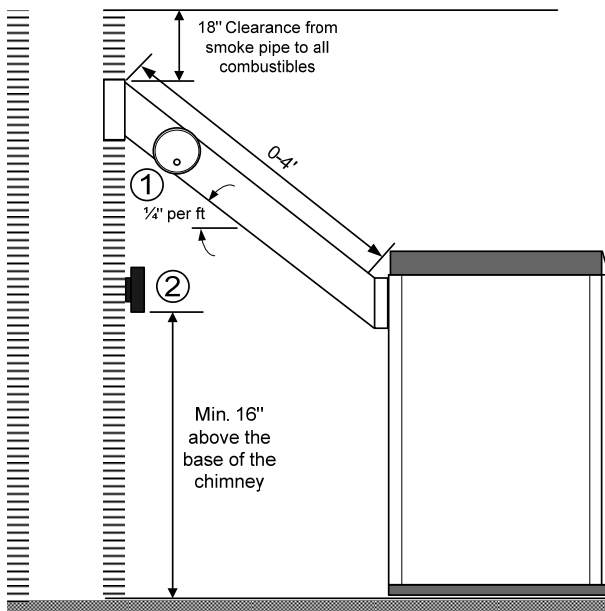

Fig 3.1
The smoke pipe connecting the boiler to the chimney flue must be black or stainless, have a minimum thickness of 24 gauge, and rise a minimum of ¼" per foot of run toward the chimney (**Fig3.1**). Smoke pipe sections must be attached to one another with a minimum of three sheet metal screws. The smoke pipe should not contain more than two 90° elbows (45° elbows are preferred over 90° elbows).
- Recommended draft regulator locations are shown in **Fig 3.1** (position 1 or 2).